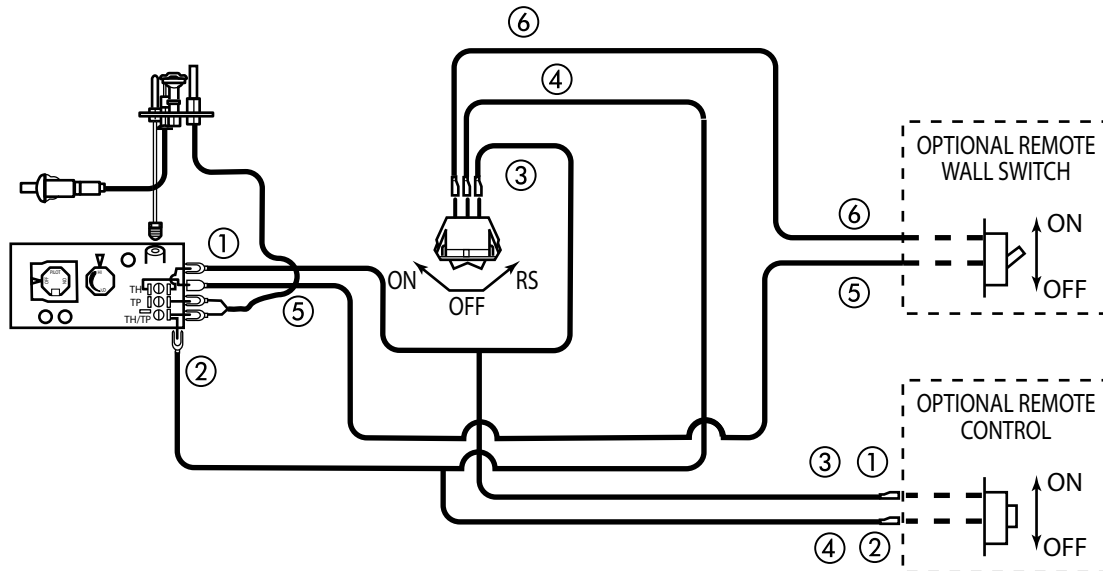

Figure 43 - Wiring Diagram for Wall Switch
A remote wall switch and up to fifteen (15) feet of 18 Ga. wire may be used with this appliance. Attach the wall switch in a junction box at the desired location on the wall. *Figure 43*. Do not extend beyond the wall switch wire length provided.